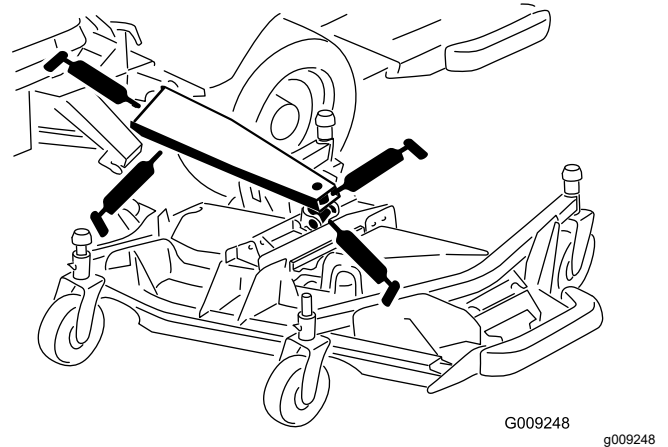

Figure 86
- 3 main lift-arm bushings (Figure 86)
- 1 lift-cylinder bushing (Figure 86)